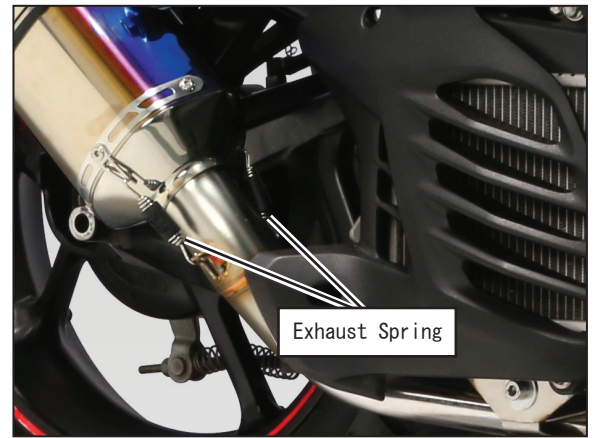

FIG. 10
- 8) Mount Silencer Assy on the Exhaust Pipe. Then, Install Exhaust Spring onto spring hook on Exhaust Pipe and Silencer Assy (See Fig. 10).